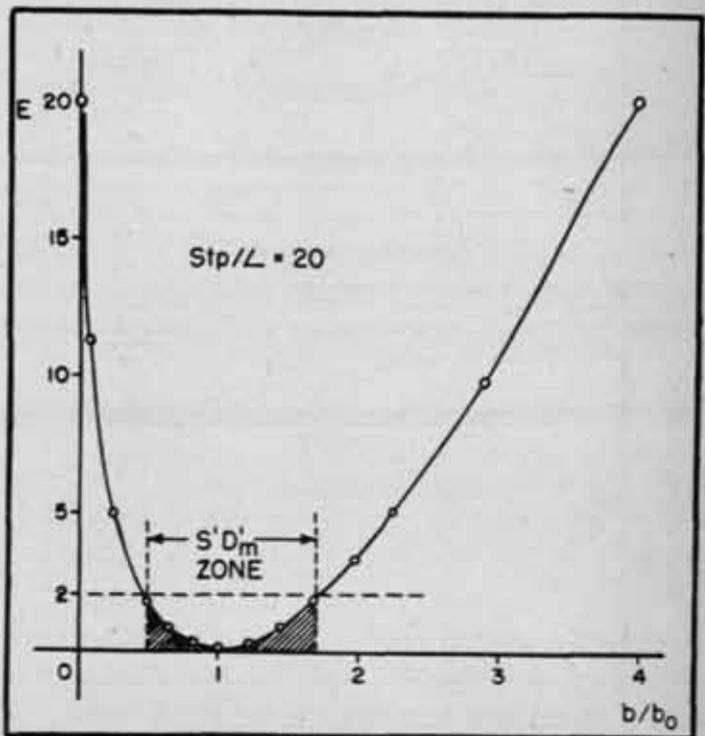

Figure 2.—"Hump sensing error" (E), for varying observer locations down course from gun.
From the above equations, much information other than that mentioned in (a) to (f), can be obtained. The plot of E against  $b/b_0$  from Eq. (4), with values of  $(b/b_0)$  ranging from zero to four, and using a value  $St_p/L$  equal to 20, which is about as large as  $St_p/L$  ever becomes in target practice, is shown in Fig. 2.
Now, considering  $(b/b_0)$  to vary between .4 and 1.7, Fig. 2 shows the mathematical basis for the statement in (d). Fig. 2, likewise, warns against the use of values of  $b$ , hence  $(b/b_0)$ , other than those given by Eq. (1).